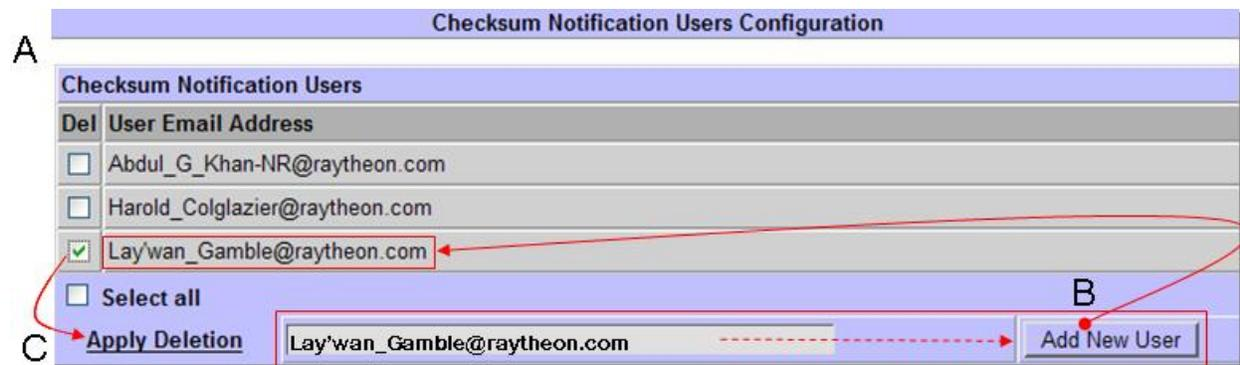

Figure 15.10-7. Checksum Notification Users Configuration Page
The **Checksum Users Configuration** page (Figure 15.10-7) allows the full-capability Operator to configure a list of email addresses of users that will receive a checksum in the for a request. If the email address for a Distribution Notice (DN) contain one of these addresses, the distribution notice will contain checksum values for each of the distributed files.
- 2 Click **Checksum Users** submenu option to display the **Checksum Notification Users Configuration** page (Figure 15.10-7, Frame A).
- The new user email address (Figure 15.10-7, Frame B) displays on the page.
- 6 Select the **Apply Deletion** link (Figure 15.10-7, Frame C) to make change(s) and remove the User Email Address(es).